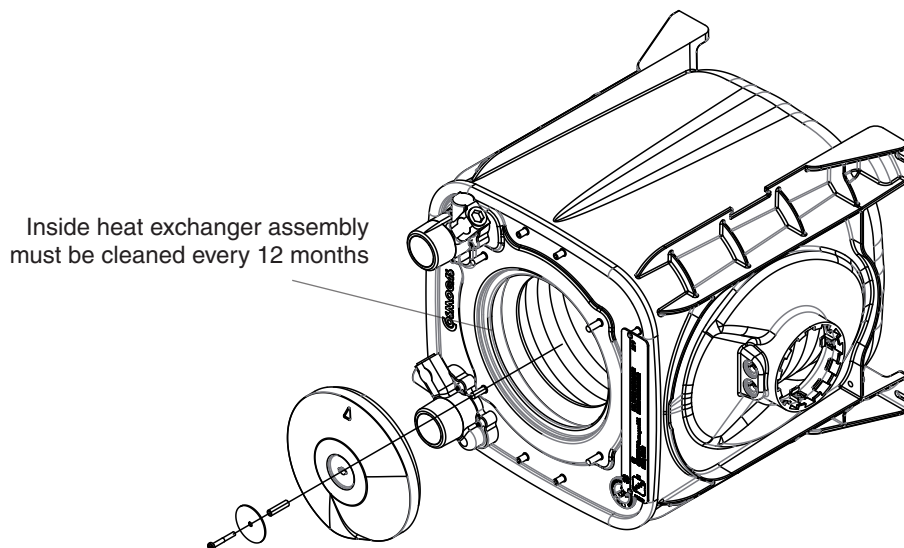

Figure 43.
1. The TitanTough Heat Exchanger assembly must be inspected every 12 months and cleaned. It is recommended to call a qualified service technician to inspect the heat exchanger. See Figure 43.